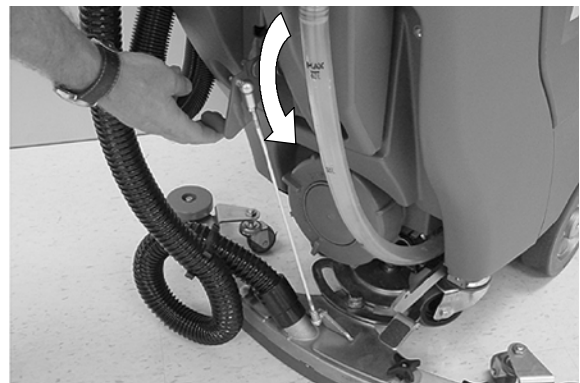

FIG. 17
3. Lower the squeegee assembly to floor by lowering the squeegee lift lever (Figure 17). The vacuum motor will automatically turn on.